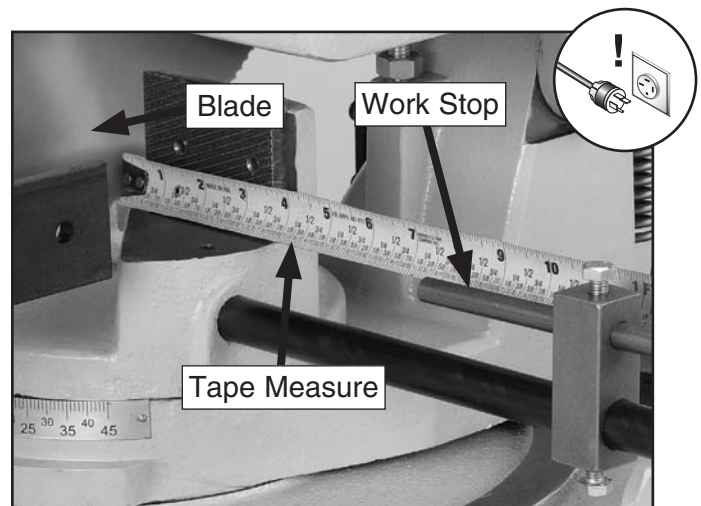

Figure 33. Measuring length of cut.
4. Measure from the side of the blade to the work stop. Slide the work stop until the distance between the blade and the work stop is equal to the desired length of the piece being cut, then tighten the hex bolt (**Figure 33**).